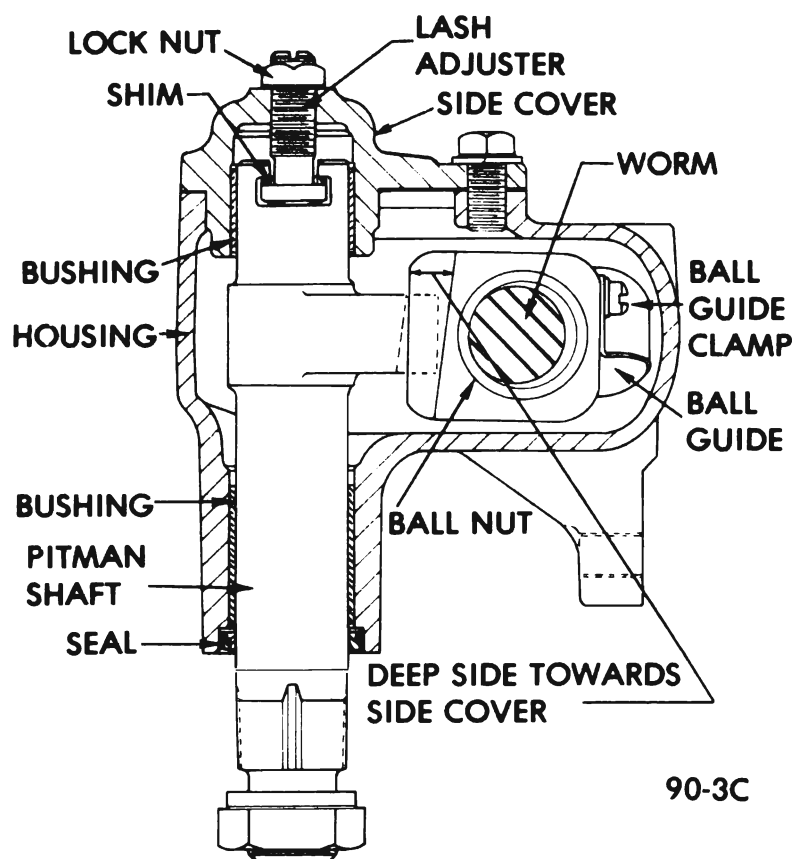

Figure 90-2 Steering Gear - Sectional View
housing side cover. The head of the lash adjuster and a selectively fitted shim fit snugly into a T-slot in the end of the pitman shaft, so that the screw also controls end play of shaft. See Figure 90-2.
1. Position ball nut over worm shaft so that deep side of teeth will be toward side cover when installed in gear housing. See Figure 90-2. Install 19 balls in each circuit (rock worm shaft slightly to aid in installing balls). Place 6 balls in each return guide, using grease to hold balls in place. Install return guides, clamp and screws. Rotate worm through its complete travel several times to insure balls are installed correctly and rotate freely.